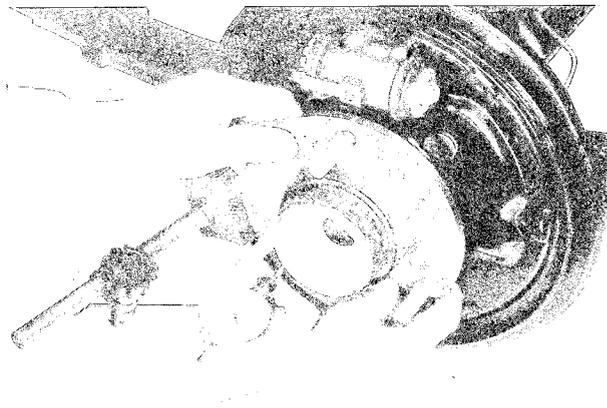

Fig. 9-1 Checking end play
3. Mount a dial indicator to the backing plate to check the end play, as shown in Fig. 9-1.